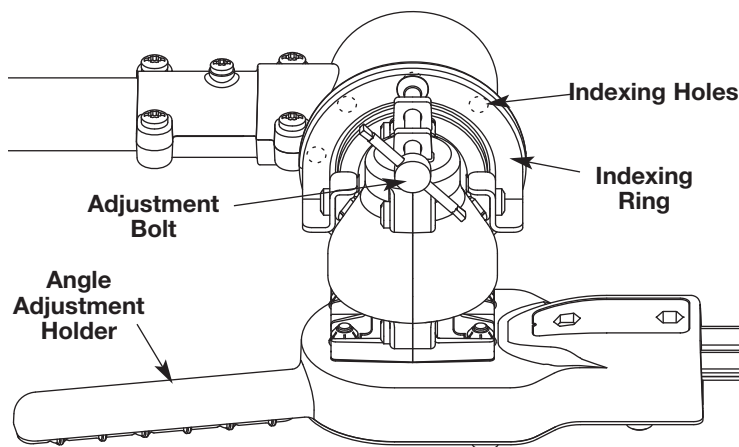

Fig. 4
1. Grasp the adjustment bolt (Fig. 4) and turn counterclockwise to unscrew the bolt from the hole in the indexing ring.